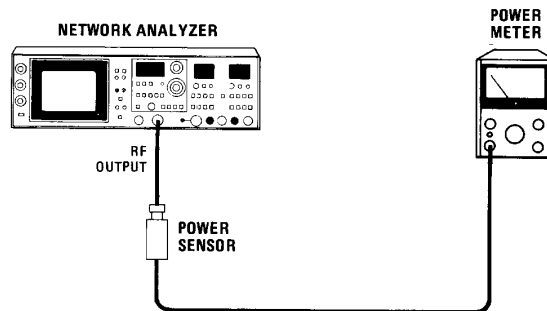

Figure 4-3. Source Output Power Test Setup
5. Set SWEEP WIDTH MHz to 0 CW. Connect power meter to analyzer RF OUTPUT port as shown in Figure 4-3.